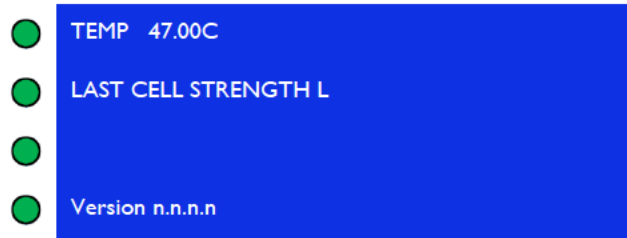

Figure 16: Example of the LCD Operational Parameters View
- Screen 1 displays the content shown in Figure 16 and described below the figure.